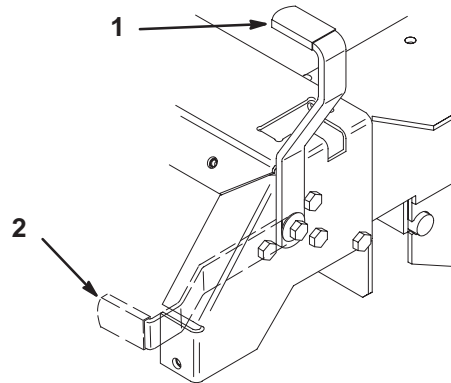

Figure 13
2. Pull back and up on the parking brake lever to set the parking brake (Fig. 13). The parking brake lever should stay firmly in the “ENGAGED” position.
1. Push forward and down on the parking brake lever to release the parking brake (Fig. 13). The parking brake is “DISENGAGED”.